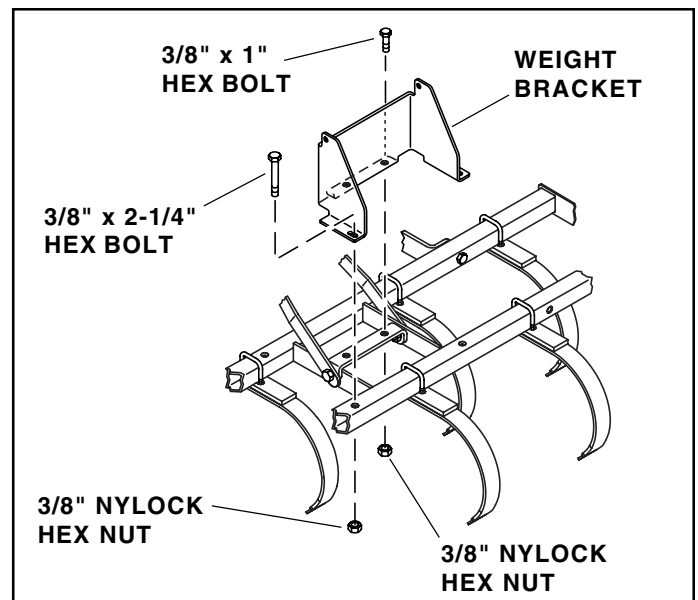

FIGURE 7
7. Attach the front of the weight bracket to the support bracket using two 3/8" x 1" hex bolts and two 3/8" Nylock hex nuts. Attach the sides of the weight bracket to the rear of the frame using two 3/8" x 2-1/4" hex bolts and two 3/8" Nylock hex nuts. See figure 7.